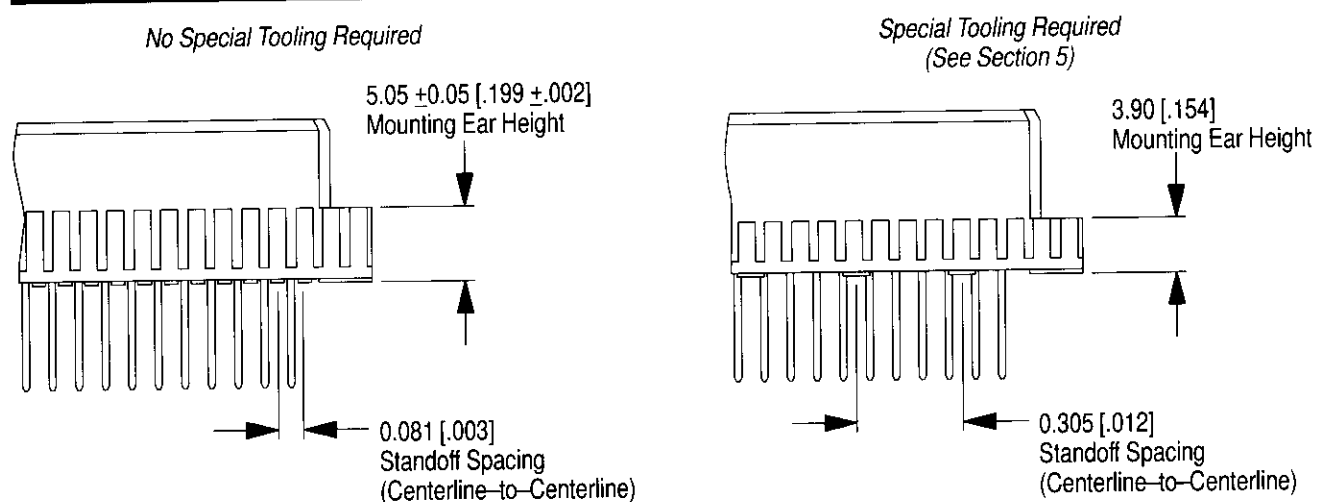

Figure 4
- Added Paragraph 3.2,B, Mounting Ears and Standoffs, and Figure 4
These connectors are designed with mounting ears in different thicknesses and spacing between standoffs. Those with larger mounting ear height and closer standoff spacing do not require a seating tool to push the ACTION PIN contacts through the pc board holes to seat the connector. Those with smaller mounting ear height and greater standoff spacing require the use of a seating tool. See Figure 4.